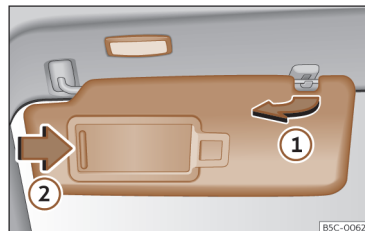

Fig. 115 Sun visor
- The sun visor can be pulled out of its mounting and turned towards the door >>> **Fig. 115** ①.